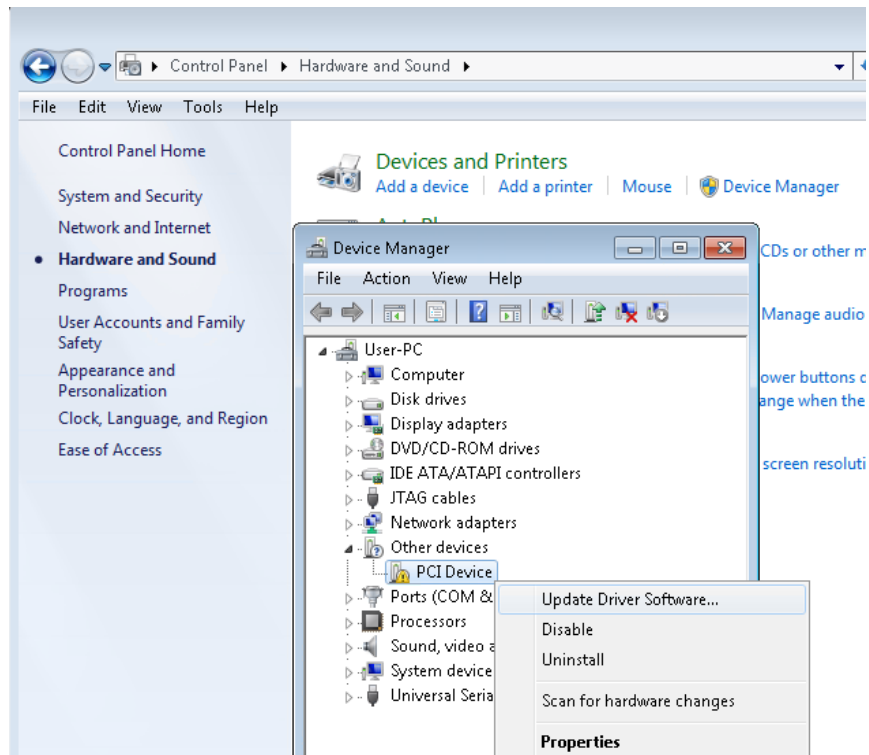

Figure 7-4 Screenshot of launching Update Driver Software dialog
7. Click the Control Panel menu from the Windows Start menu. Click the Hardware and the Sound item before clicking the Device Manager to launch the Device Manager dialog. There will be a PCI Device item in the dialog, as shown in Figure 7-4. Move the mouse cursor to the PCI Device item and right click it to select the Update Driver Software... item.